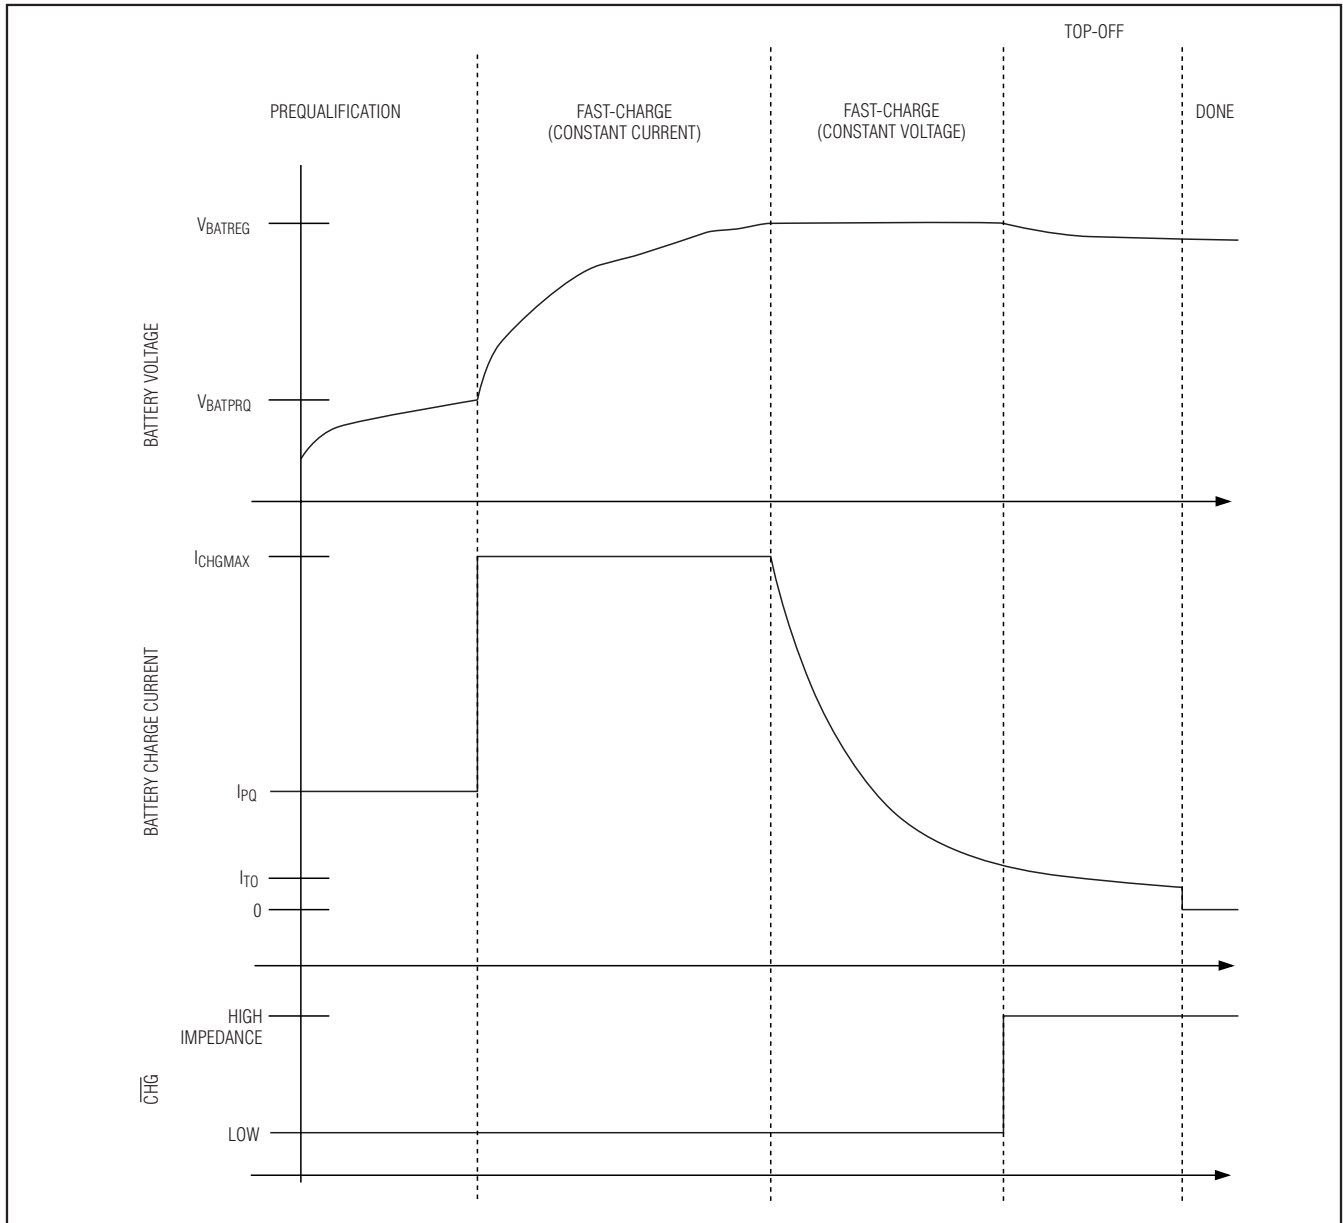
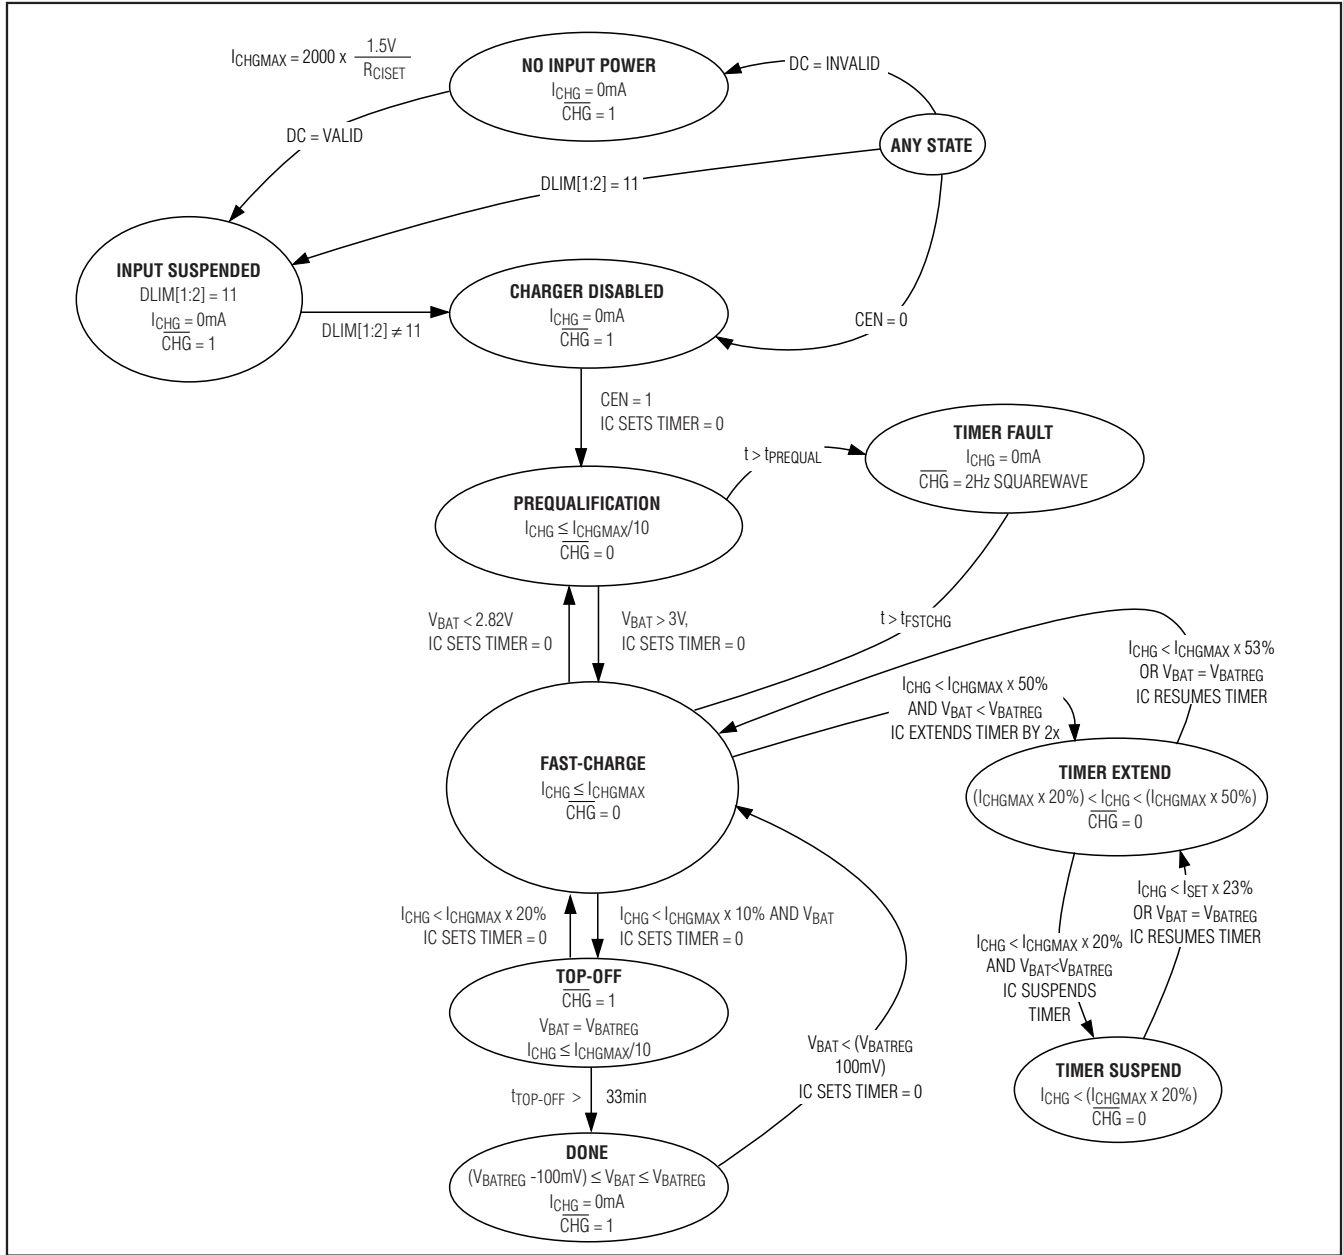

Figure 2. Li+/Li-Poly Charge Profile
Figure 3. Li+/Li-Poly Charger State Diagram
Figure 2 shows the typical Li+/Li-Poly charge profile for the MAX8819_, and Figure 3 shows the battery charger state diagram.
- The battery charger stops charging in done mode as shown in Figures 2 and 3.
$\overline{\text{CHG}}$ is an open-drain, active-low output that indicates charger status. As shown in Figures 2 and 3, $\overline{\text{CHG}}$ is low when the charger is in its prequalification or fast-charge states. When a timer count is exceeded in either state, $\overline{\text{CHG}}$ indicates the fault by blinking at a 2Hz rate and remains in that state until the charger is reset by CEN going low, removal of DC or setting DLIM[1:2] = 11.
As shown in Figure 3, a fault timer prevents the battery from charging indefinitely. In prequalification mode, the charge time is internally fixed to 33min.
While in the constant-current fast-charge mode (Figure 2), if the MAX8819_ reduces the battery charge current
paused. The fast-charge timer is not slowed or paused when the charger is in the constant voltage portion of its fast-charge mode (Figure 2) where the charge current reduces normally.